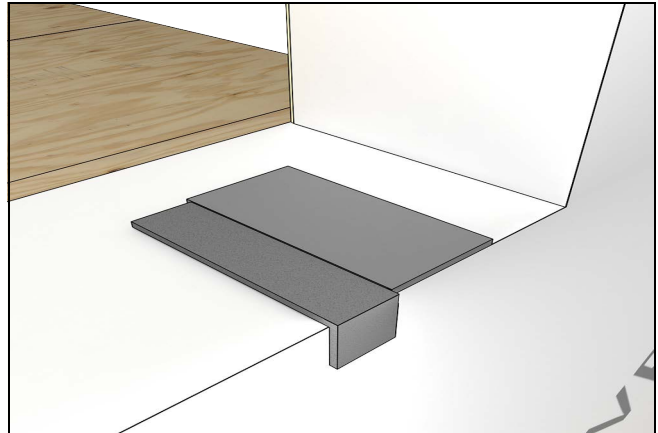
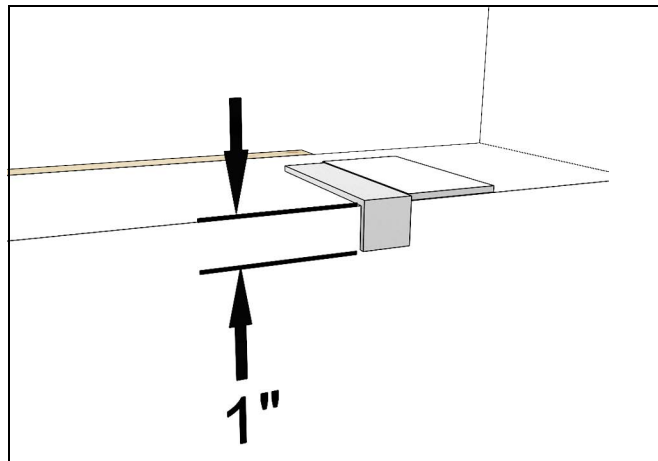

Figure 9
Figure 10
9. Apply foam weep tape next to shims. See Figure 9. 1-1/2" (38) wide x 5" (127) long. Fold over exterior of sill pan and hang over an 1" (25). See Figure 10.